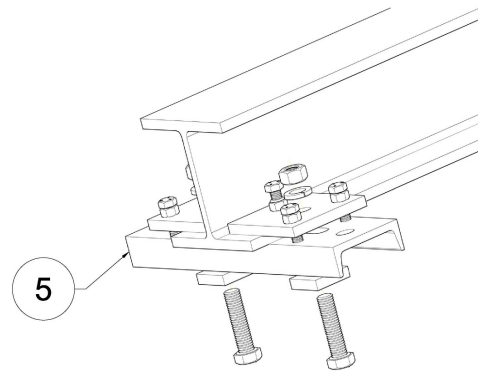

Figure 2
6. Find the center location (center of Mat Storage System when installed) on the supporting beam and install one of the adjustable clamps as shown in Figure 2. Adjust the two 1/2" clamp plate bolts to contact the clamp channel so that the clamp plate is level when resting on the flange of the beam or truss. Do not tighten any bolts at this time. Snug the 3/4" bolts to keep the clamp from moving on the truss. These bolts will be tightened when the Mat Storage System is in place and supported by the threaded rod attachments.